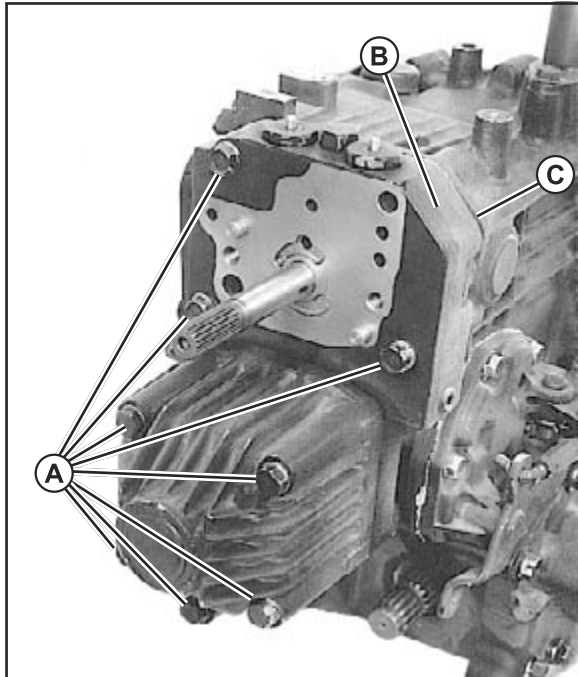

Fig. 59, Hydrostatic, 2WD (4WD similar) Motor Install
1. Install gasket (C). (Fig. 59)
2. Install center valve block (B) and motor assembly to transaxle housing and secure with cap screws (A). (Fig. 59)
- Tighten cap screws (A) to 39 N•m (29 lb-ft).